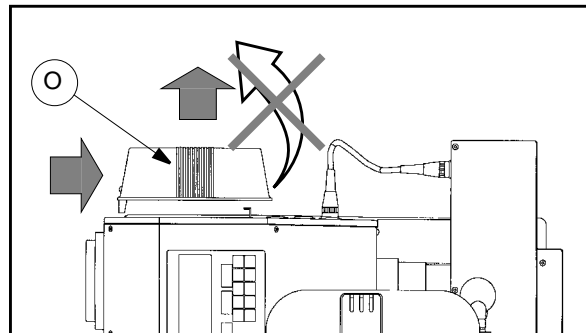

Fig. 33
- 3) detach the cover (O), pushing in the direction of the arrows (fig. 33)